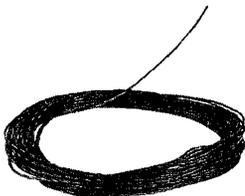

Fig. 2 — Removing Twisted Wire
- (1) Place coil flat on floor so that inner end will feed from coil in a counterclockwise direction.
- (2) Feed from centre of coil (Fig. 2).